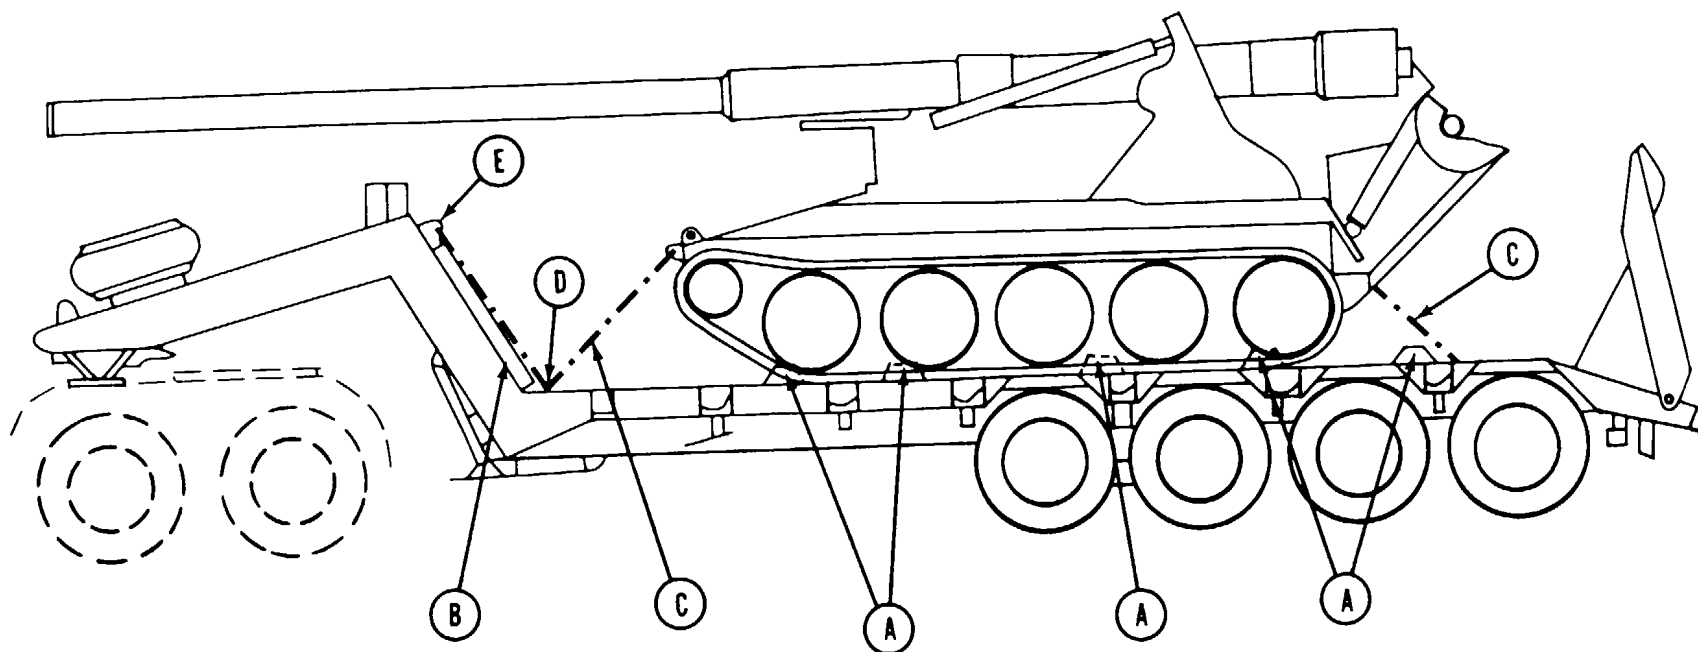

Figure 5-1. Blocking and tiedown diagram of typical gun, M107, on semitrailer, M747.
- a. General. For purposes of illustration the gun, M107, is shown as a typical load on the semitrailer, M747 (fig 5-1).
tracks when gun or howitzer is aboard trailer (item A, fig. 5-1).
(2) Drive or winch gun or howitzer onto the trailer bed. The M107 and M110E2 should be positioned as shown in figure 5-1 so that the muzzle end of the barrel does not protrude beyond the front end of the trailer in a manner that would interfere with the towing tractor. The M110 should be placed to the farthest forward position against the wood bumpers (item B, fig 5-1). TM 9-2830-294-14 contains detailed instructions for winching operations.
(3) Place and wire-tie transmission in neutral position. Set parking brakes.
(1) Figure 5-1 provides a tiedown diagram that is compatible with standard loading practices and will adequately restrain the load against forces encountered at normal speeds and operating conditions.
(2) Attach chain (item C, fig 5-1) to left front towing shackle and pass through winch roller (item D, fig 5-1). Attach load binder to tiedown shackle on trailer goose neck (item E, fig 5-1). Attach chain to load binder and tighten. Repeat on right side. Attach chain to left rear towing shackle. Attach load binder to rearmost tiedown fitting on right side of trailer. Attach chain to load binder and tighten. Repeat on other side.